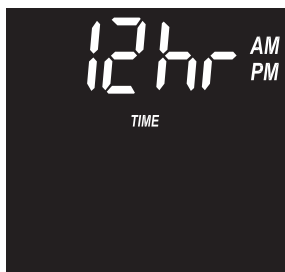

FIG. 33
3. Once in this display, press the PROGRAM button again and one of the two displays in Figure 33 is shown.